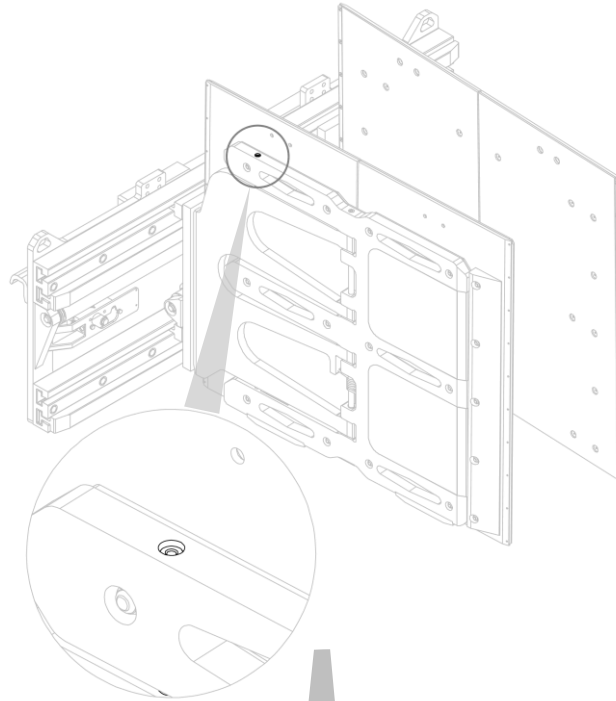
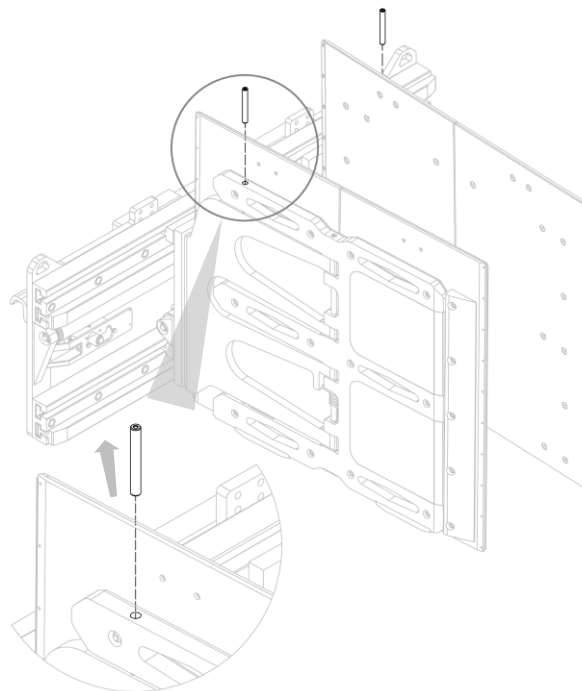

Figure 63
Figure 64
2. Remove, the upper swing stop pins, one at a time (see *Figure 63* and *Figure 64*).